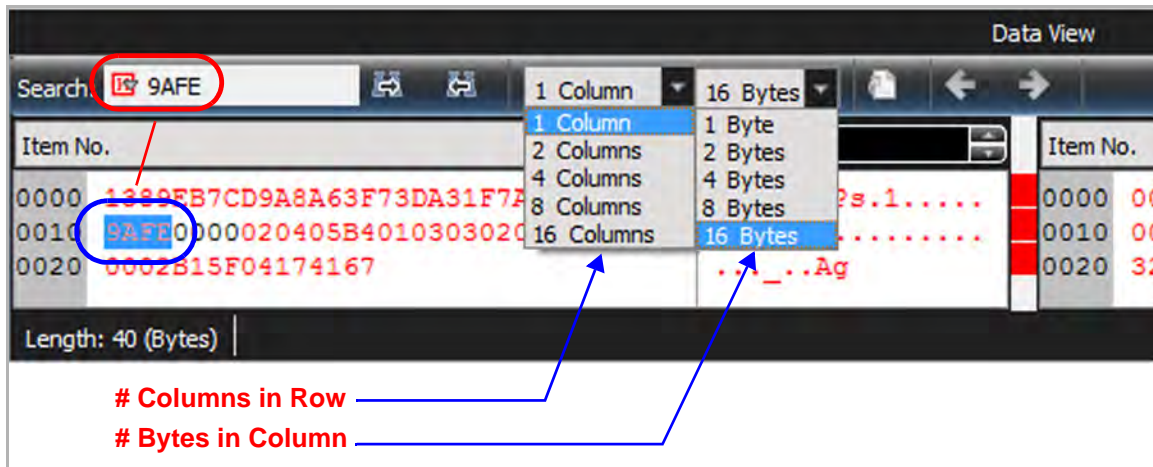

Figure 5.23: # Columns in Row, # Bytes in Column
- ❑ # Columns in Row (Figure 5.23)
- ❑ # Bytes in Column (Figure 5.23)